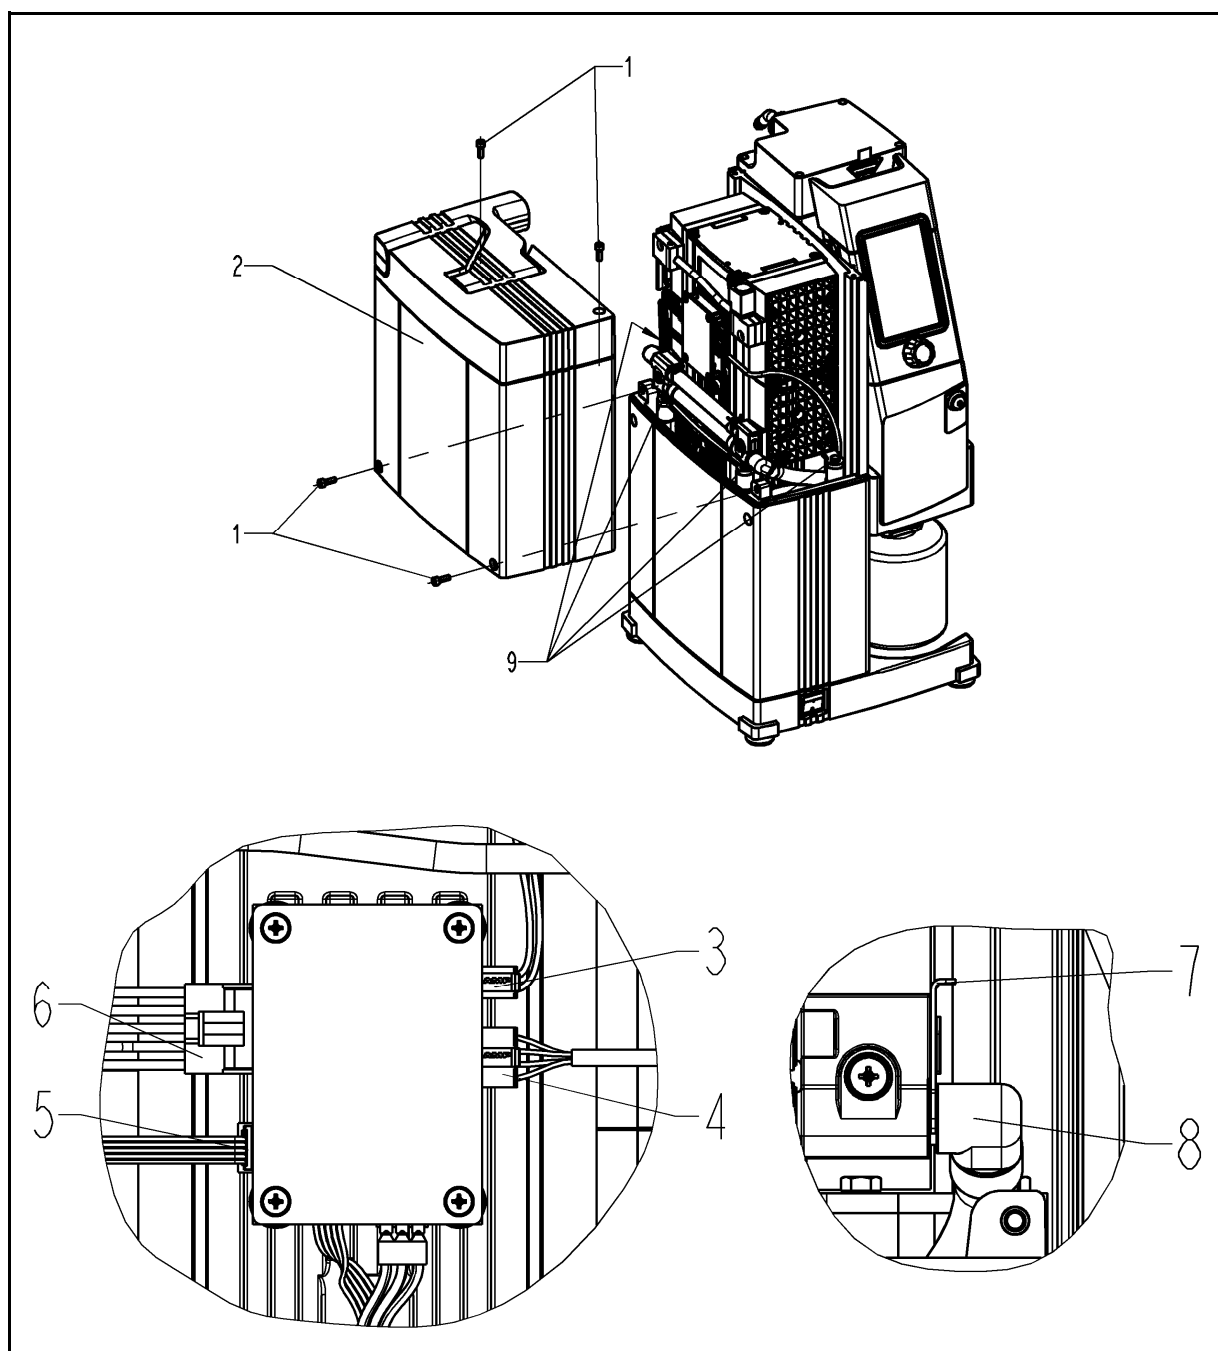

Fig. 21: Accessing the pump in the SC950 vacuum pump system
1. Loosen the four attachments screws (Fig. 21/1) and remove the grip assembly (2).
- i** Before assembling the head connections, make sure that the two front attachment screws (Fig. 21/9) are inserted into the foot plate. This is required in order to later re-fasten the pump in the vacuum pump system.
10. Place the pump back into the vacuum pump system and tighten the four attachment screws (Fig. 21/9) to hand-tightness.